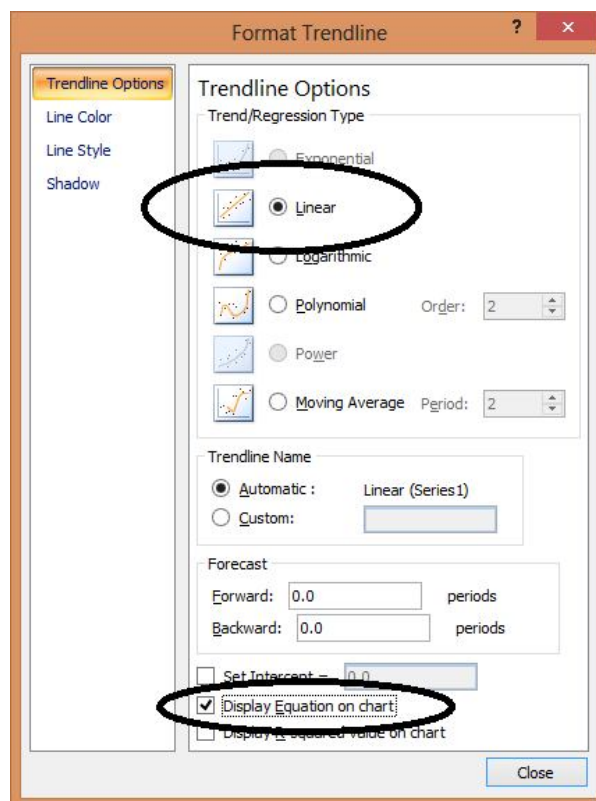

Figure 8
8. A 'Format Trendline' window will pop-up on the screen. By default a 'linear' trendline will be selected, you may change it as per the requirements; but for this experiment it will suffice. You may also add the equation of the straight line (it will be in the form of: $y = m \cdot x + c$). Refer Figure 8. The black coloured straight line is the required Trendline.